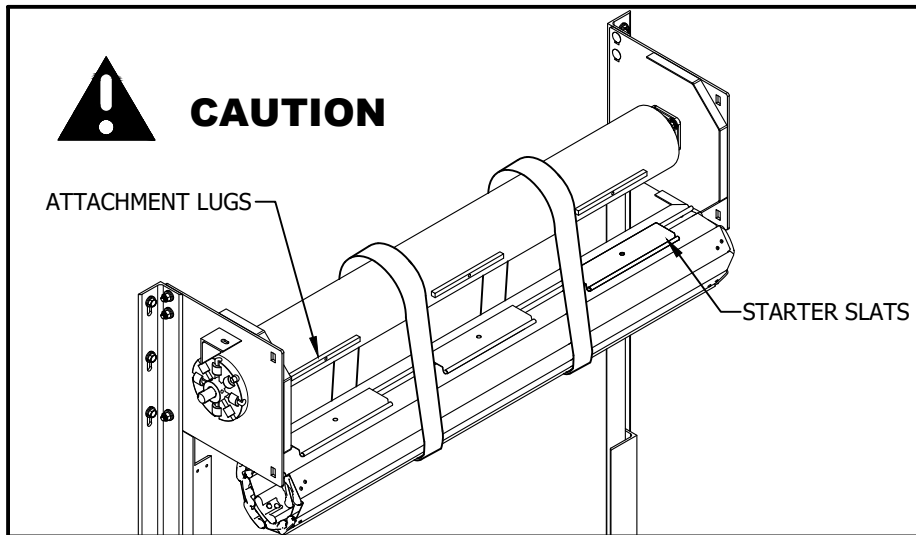

FIGURE 16
- b. Center the factory rolled curtain assembly between guides in the service cutout portion of the guide assembly as shown in Figure 16.